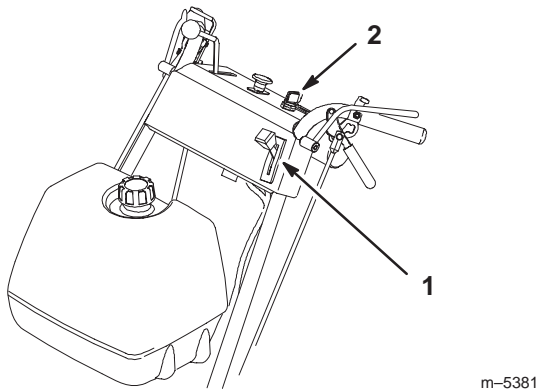

Figure 13
2. Move the throttle control to “CHOKE” position before starting a cold engine (Fig. 13).
3. Turn ignition key “START” to energize starter. When engines starts, release key (Fig. 13).
- Move the throttle lever to “SLOW” (Fig. 13).
- Turn the ignition key to “OFF” (Fig. 13).